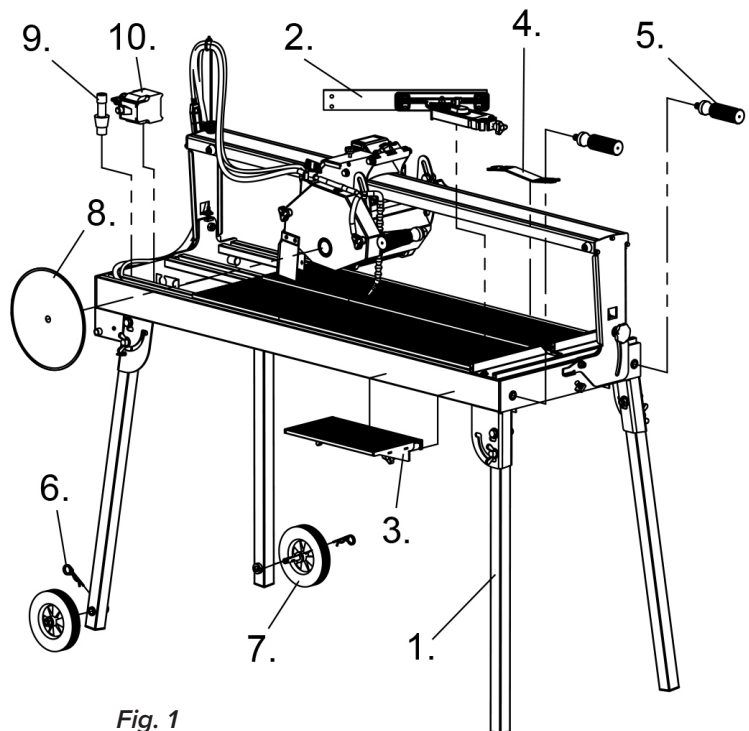

Fig. 1
2. Remove the detachable wheel assembly and stow it as necessary. (see figure 1 and 3)
1. Attach the detachable wheel assembly as necessary to roll the saw on the ground. (see figure 1 and 3)
2. Insert the slot (see figure 7) on the guide and slide onto the cutting fence as shown in figure 1 and 14.